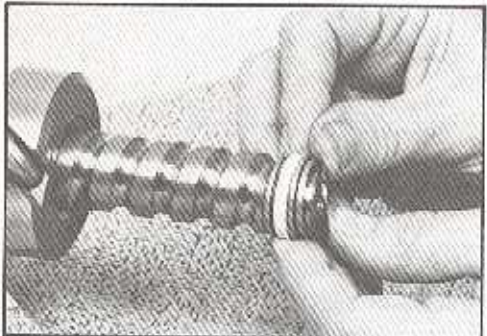

Figure 137
29. Compress the components just assembled against the shoulder of the worm shaft and assemble retaining ring (31). Be sure the retaining ring is firmly seated in its groove in the worm shaft and in the retaining washer (30) counter bore. SEE FIGURE 137.